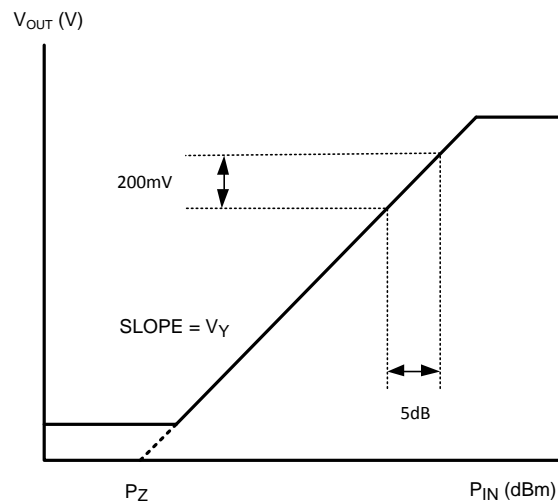

Figure 70. V_{OUT} vs. RF Input Power P_{IN}
- V_Y is the slope of the detection curve (Figure 70)
- (5)
A further understanding of the equation above can be achieved via the knowledge that the output voltage V_{OUT} of the LMV225/LMV228 is linear in dB, or proportional to the input power P_{IN} in dBm. As discussed earlier, CDMA has a modulation in the order of 5 to 6 dB. Since the transfer is linear in dB, the output voltage V_{OUT} will vary linearly over about 5 to 6 dB in the curve (Figure 70).